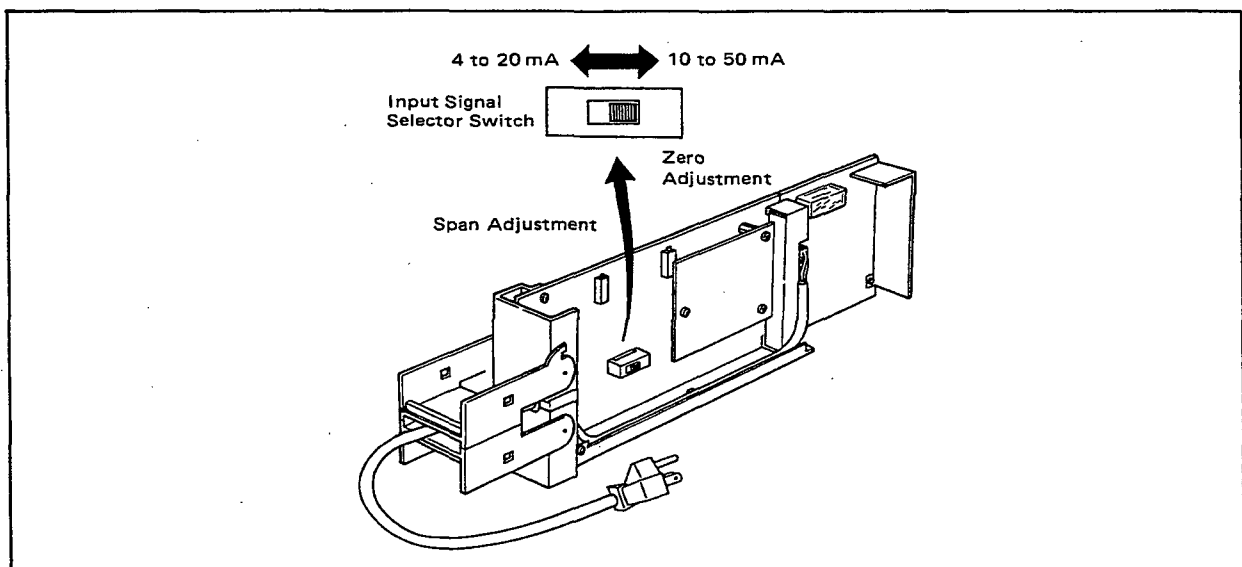

Figure 6-5. Input Current Selector Switch, Zero Adjustment and Span Adjustment.
- (2) Draw out the internal assembly and set the input current selector switch to the desired input current position (see Figure 6-5 or 6-6).
- (3) Set the output current of the calibration booster to the desired current.
- (4) Apply inputs corresponding to 0, 25, 50, 75 and 100% of the input range and confirm that the input/output relationships shown in Table 6-1 are satisfied by reading the output at each of these points with a digital multimeter. If the accuracy of input/output is outside the standard, carry out zero adjustment and span adjustment (refer to Section 7-3 or 7-4).
- (5) The four distributor circuits are installed in the SDBU-24□. Calibrate each circuit in the same manner as (4) described above.